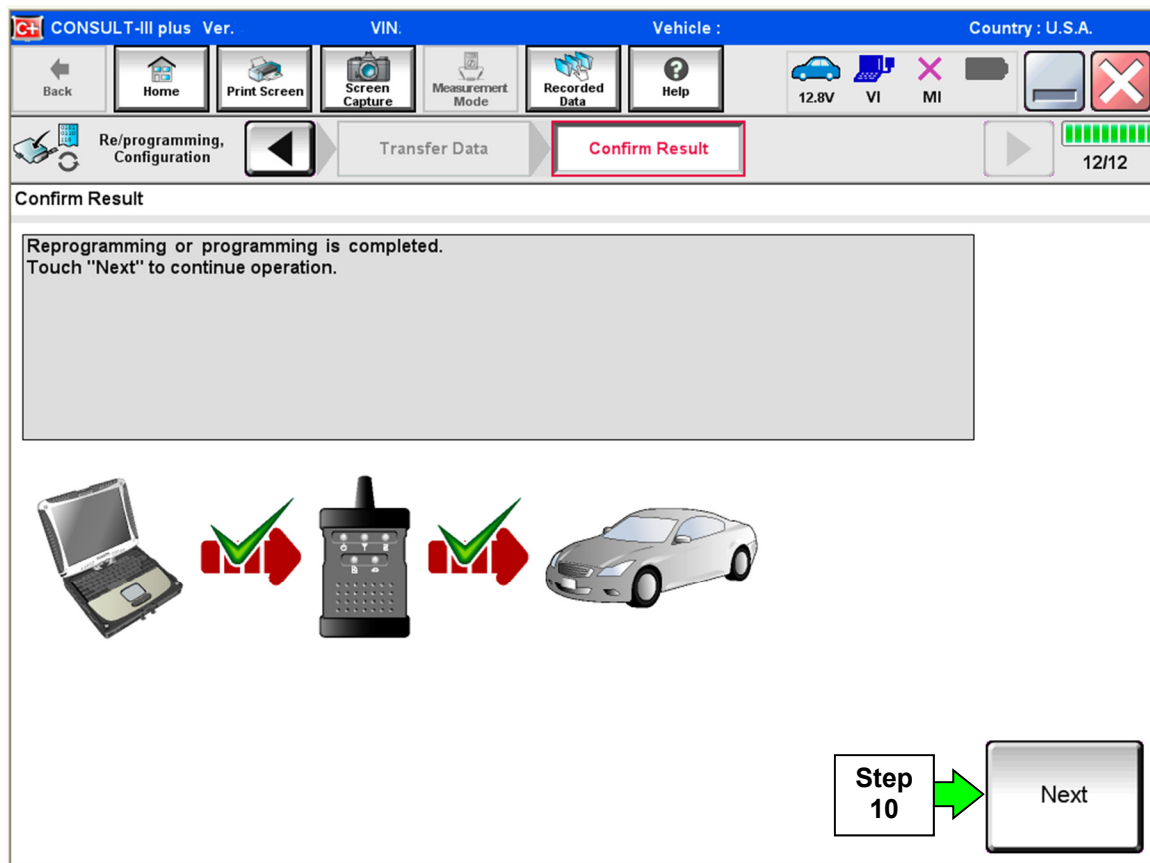

Figure 5
8. When the screen in Figure 5 displays, reprogramming is complete.
NOTE: If the screen in Figure 5 does not display (indicating that reprogramming did not complete), refer to the information on page 9.